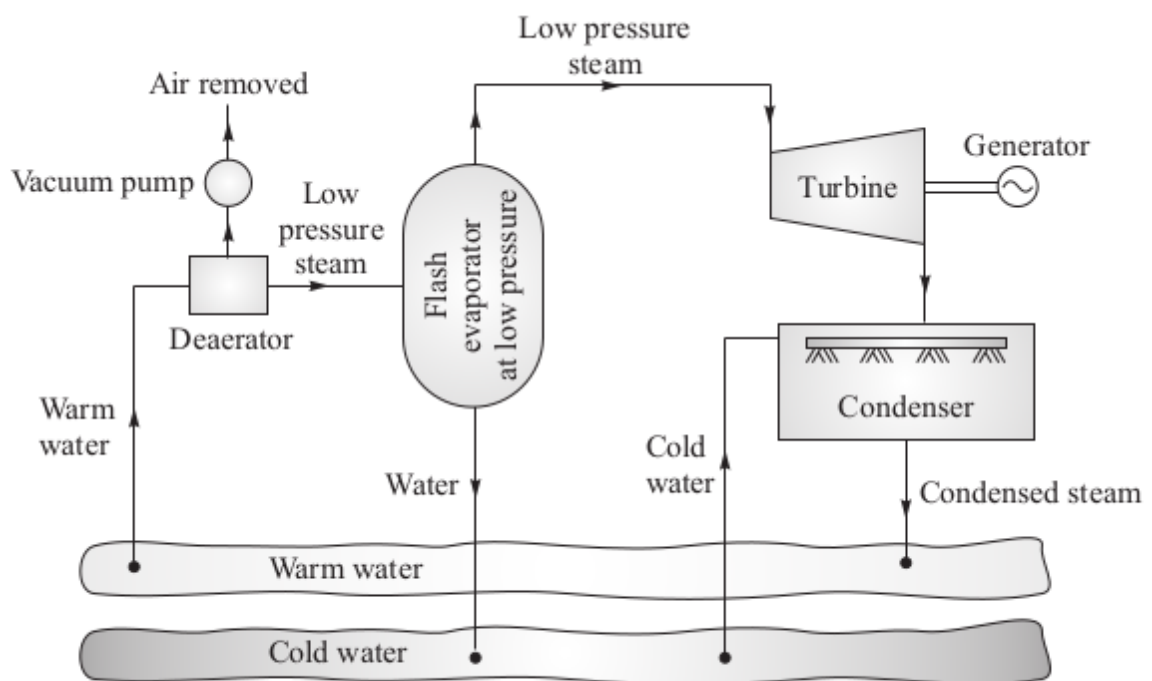

Figure 13.1 Open cycle OTEC plant.
1. **Figure 13.1** Open cycle OTEC plant.